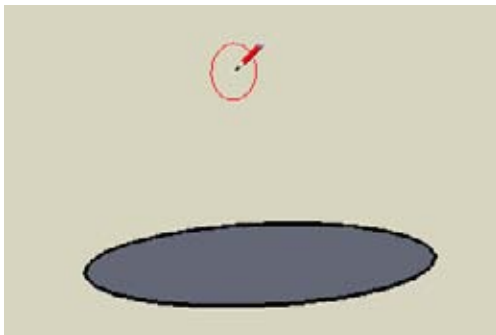

Figure 2-71
2. The next circle, which will be the Follow Me face, must be vertical. So move the mouse up until the preview circle is either red or green (Figure 2-71), and press and hold Shift to lock the orientation.